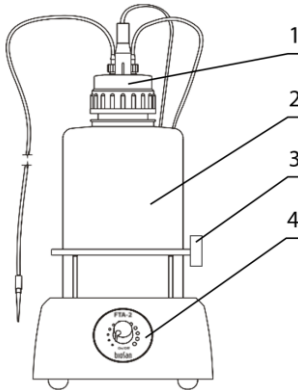
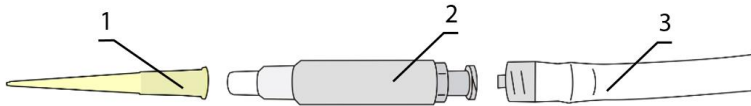
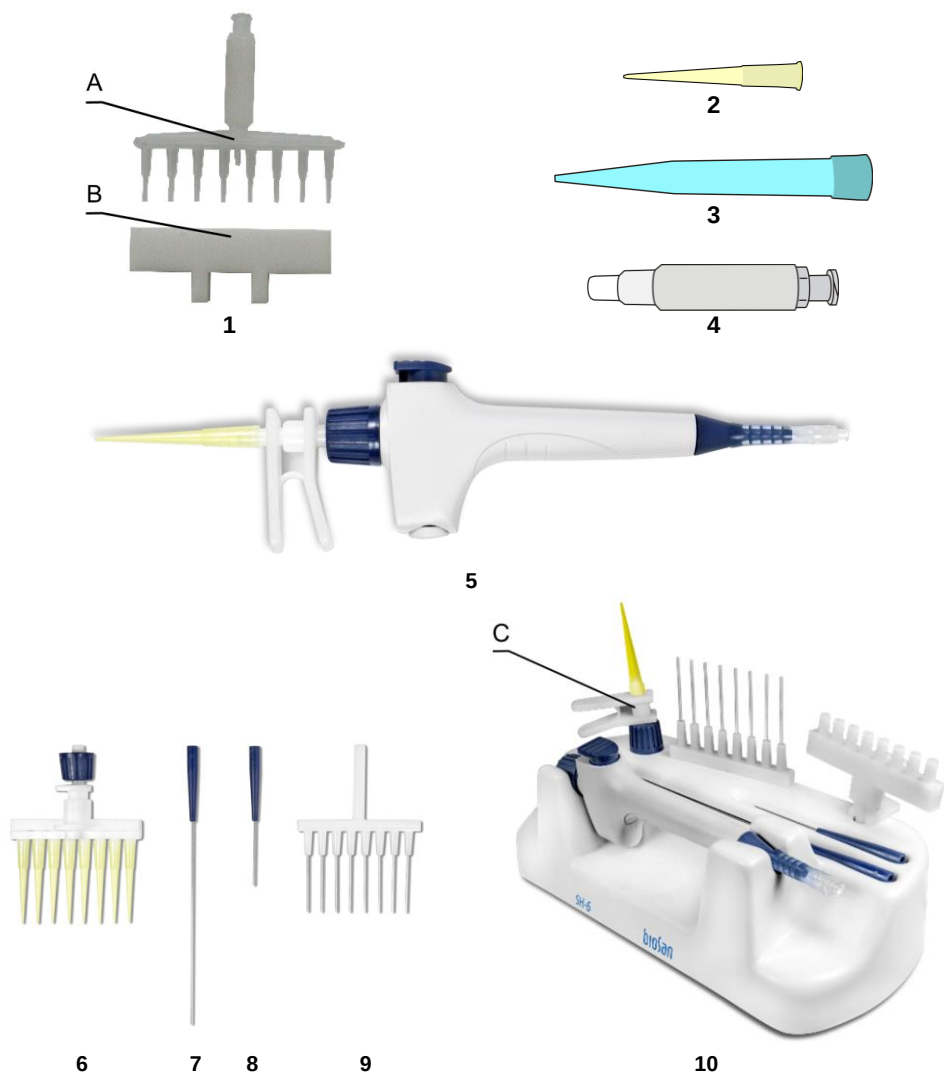

Figure 3. FTA-2i front view.
Figure 5. MA-U, universal adapter.
Figure 8. Optional accessories and replacement parts
- Install the trapping flask (fig. 3/2) on the unit.
- Screw on the lid with the sensor needles and valves for tubing (fig. 3/1) to trapping flask.
- Assemble the **MA-U** aspiration tip set (figure 5).
- Place the microtubes for aspiration tip into the holder (fig. 3/3).
4.4.1 **Optional MA-8 aspiration tip installation.** Remove microtubes and aspiration tip from the holder (fig. 3/3). Remove the aspiration tip (fig. 5/1) from the **MA-U** adapter and connect the **MA-8** aspiration tip (fig. 8/1A).
4.4.2 **Optional HAS-1 hand operator installation.** Unscrew the **MA-U** adapter from the aspiration tube (fig. 5/3) and connect the **HAS-1** hand operator (fig. 8/5) by screwing it to the fitting.
- 5.3 (For model **FTA-2i**) Regulate the aspiration intensity with the regulator knob on the front panel of the unit (fig. 3/4). Clockwise turning direction increases power, counter clockwise – decreases. Current intensity is indicated by a light ring around the regulator knob.
- 5.4 Touch the surface of the liquid with the aspiration tip (fig. 2, fig. 5/1 or **MA-8**) to remove the liquid.
MA-8 , 8-channel aspiration tip (fig. 8/1A) with holder (fig. 8/1B)	BS-040108-BK
HAS-1 , hand operator set (only for FTA-2i). Set includes: Handheld vacuum controller with adapter (fig. 8/5), 8-channel adapter (with ejector) for 200 µL tips (fig. 8/6), 1-channel adapter with 125 mm stainless steel pin (fig. 8/7), 1-channel adapter with 40 mm stainless steel pin (fig. 8/8), 8-channel adapter with 35 mm stainless steel pin (fig. 8/9), 1-channel adapter (with ejector) for 200 µL tips (fig. 8/10C), Stand SH-6 for hand operator parts (fig. 8/10)	BS-040118-PK
Aspiration tip, 200 µL, 1000 pcs. (fig. 8/2)	BS-000001-S04
Aspiration tip, 8 channels, for MA-8 (fig. 8/1A)	BS-040108-S24
MA-U , universal adapter for 200/1000 µL single use tips (fig. 8/4)	BS-040118-AK
Aspiration tip, 1000 µL, 1000 pcs. (fig. 8/3)	BS-000001-S05